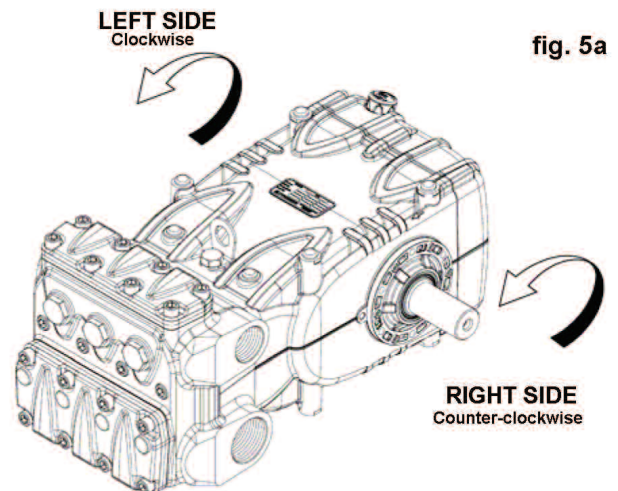

fig. 5a
- as shown in fig. 5a for versions without a reducer unit